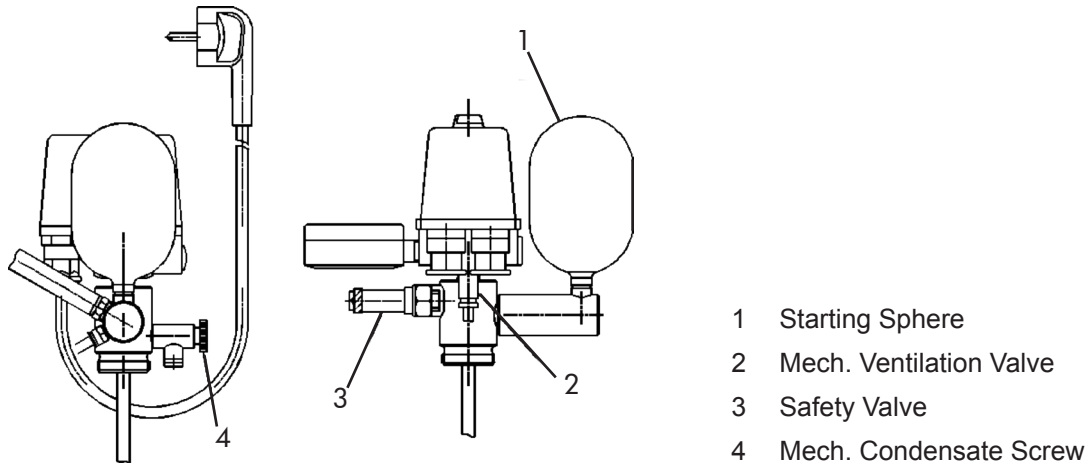

Figure 3. Start Against Pressure
Advice: The product will not start against pressure. Therefore the products are fitted either with an expansion tank (1) and a mechanical vent valve (2) Figure 3 or with an automatic starter valve.